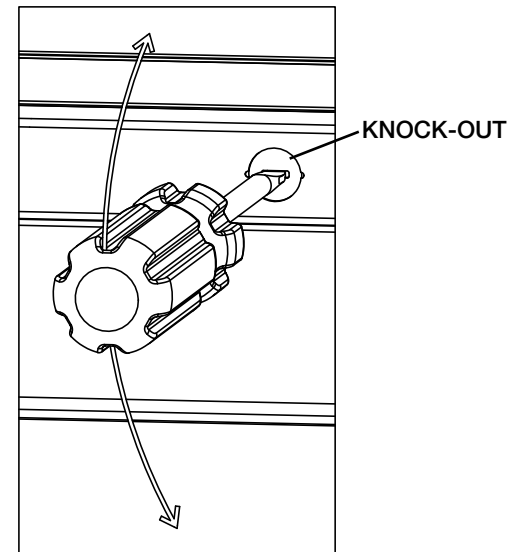

FIG. 3
7. Hold the fixture in the desired mounting location and drive mounting screws into cabinet surface until fixture is secure. If screws are difficult to install, mark holes and drill 1/16" maximum pilot holes. (ref. FIG. 3)